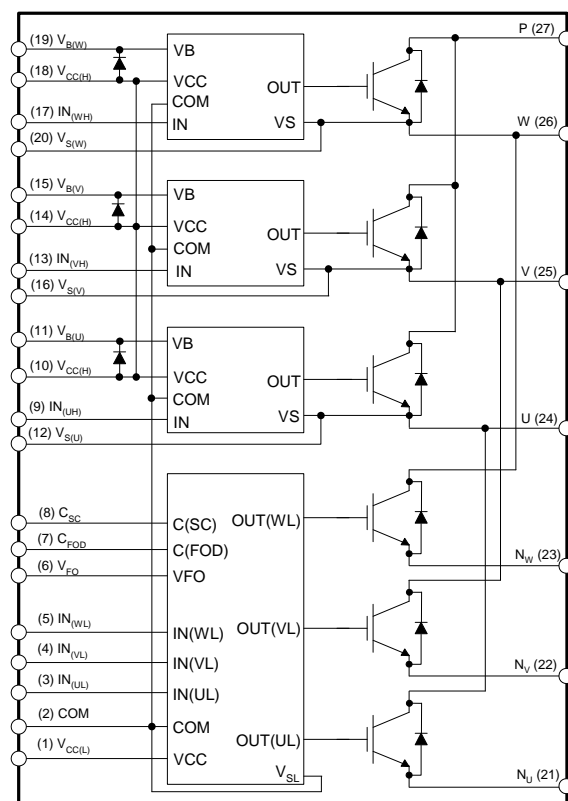

Figure 3. Internal Block Diagram
- 600 V - 30 A IGBT inverter for three-phase DC / AC power conversion (please refer to Figure 3)